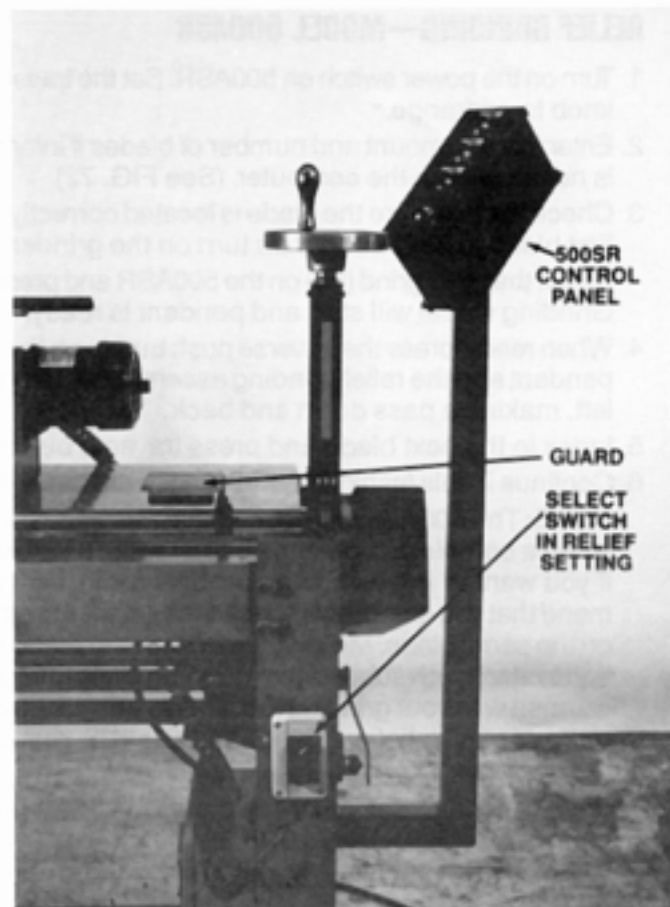

FIG. 71
2. Turn the pendant selector switch to the **relief** setting. **NOTE:** The pendant switch must be in relief setting to allow one pass of the stone. (See FIG. 71)
9. When relief grinding is complete, park the relief grinding head under the guard at the right end of the machine. (See FIG. 71)